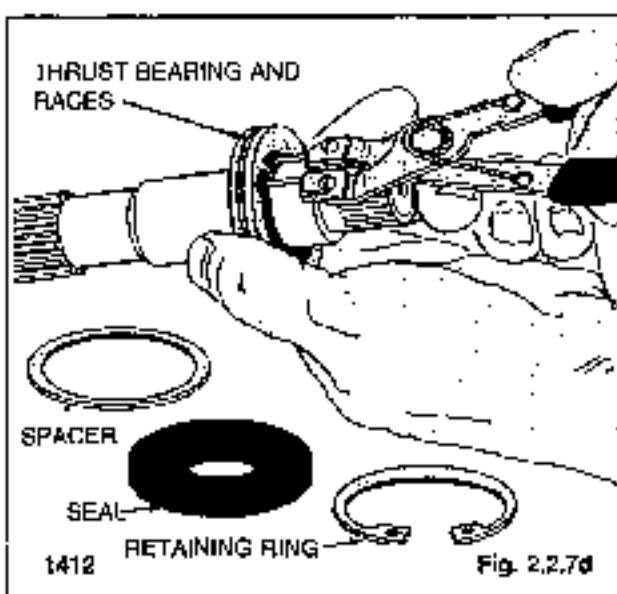

Fig. 2.2.7d
4. Install the thrust bearing and races on the pump shaft and secure with the retaining ring (fig. 2.2.7d). Install the shaft in the pump housing.